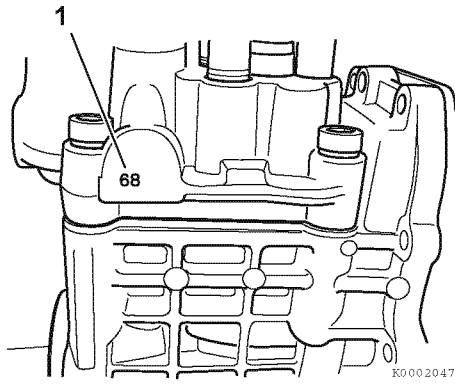

Figure 7-18
If installing a new or recalibrated fuel injection pump, locate and record the timing index number located on the pump housing boss on the engine side of the new or recalibrated fuel injection pump (Figure 7-18, (1)). This number will be used to calculate and adjust the final fuel injection timing.